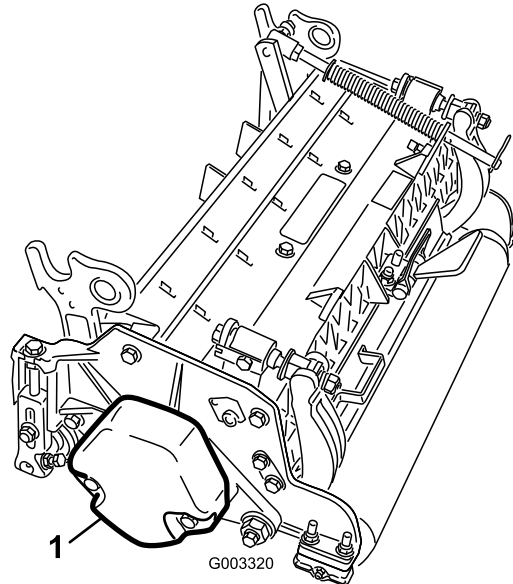

Figure 3
4. Make sure the counter weight (Figure 3) is installed to the proper end of the cutting unit as described in the cutting unit *Operator's Manual*.